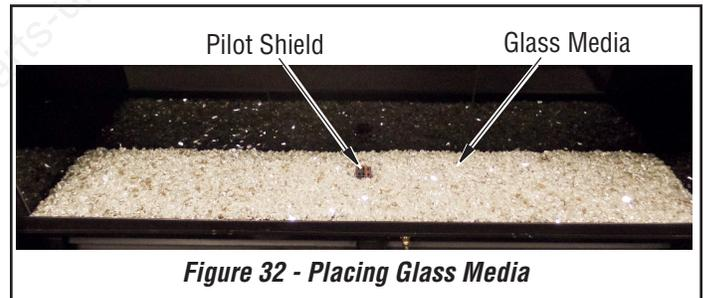

Figure 32 - Placing Glass Media
1. Place glass media in a layer evenly make sure only one layer of media on top of the burner and remaining media could be spread evenly across the remaining pan media. Ensure not to place media on top of the pilot shield, it is okay to place media around the shield (see **Figure 32**).